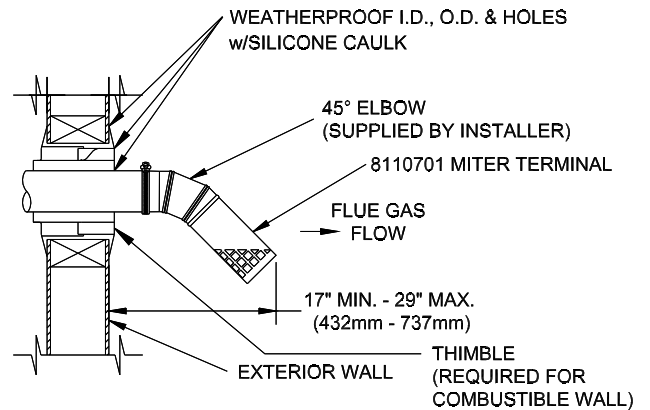

Figure 7-4: Optional Miter Terminal
5. 8110701 Miter terminal may be used as shown in Figure 7-4. 45° elbow is supplied by vent system manufacturer.